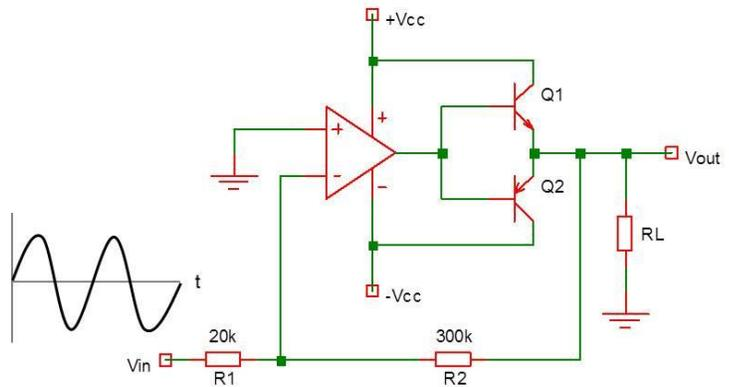

Fig. 4:  $V_{IN}$  is a sine wave.
- 4) Consider the push-pull current booster shown in Fig. 4. The input voltage is a 1  $V_{PP}$  sine wave, the load is  $R_L = 75 \text{ ohm}$ , and the power supplies are  $\pm V_{CC} = \pm 9\text{V}$ . Both transistors have  $V_{BE,ON} = 0.7\text{V}$  and  $\beta = 100$ . Both transistors have a power rating of 625 mW @  $T_A = 25^\circ\text{C}$  and a derating factor of 5 mW/ $^\circ\text{C}$ .